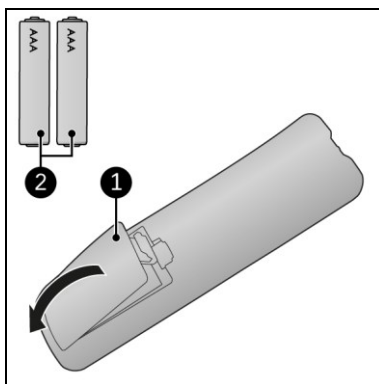

Figure 12
1. Remove the cover (Figure 12, pos. 1).
3. Insert two batteries (AAA 1.5 V) (Figure 12, pos. 2) as indicated in the battery compartment. Make sure to insert the batteries correctly.
2. Disconnect the power plug from the power outlet (Figure 12).
5. Remove the batteries from the remote control (Figure 12).